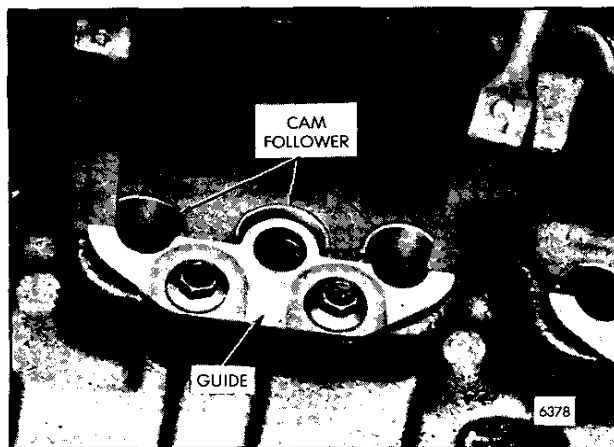

Fig. 2 - Installing Cam Follower Guide
4. Guides are to be set with .25 mm (.010") clearance (.127 mm (.005") each leg) between the guide and follower body, as shown in Fig. 2. Tighten the guide bolts to 23-27 Nm (17-20 lb-ft) torque. Make sure the guide is not binding the followers. If it is, loosen the guide bolts slightly and tap each corner of the guide with a brass rod until there is no binding. Then, retighten the bolts to the specified torque.